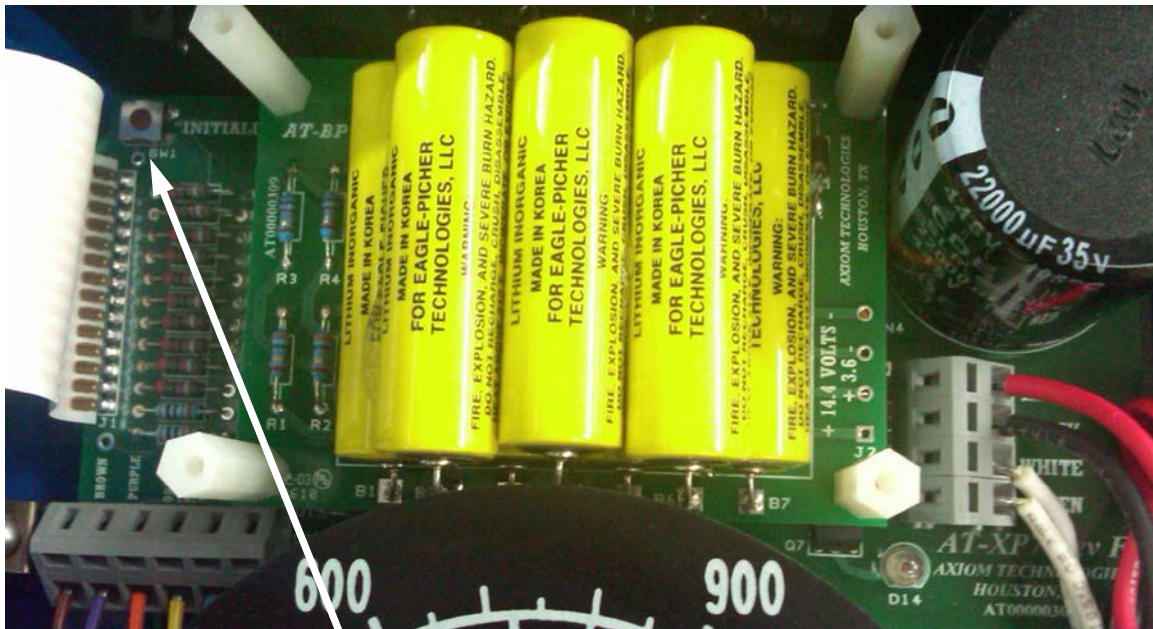

Fig 4 “Initialize” Pushbutton
- 2- While holding the “Test – Reset” switch down, momentarily depress the “Initialize” pushbutton on the controller board (upper left corner as shown on Fig 4, Page 7) and then let go the “Test – Reset” switch. The green LED responds by flashing rapidly for a few seconds.